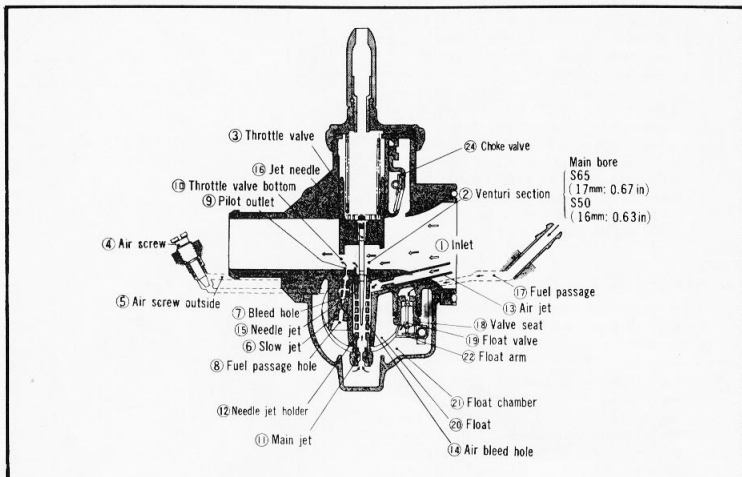

Figure 3-105. Carburetor cross sectional diagram
The air which passes through the air cleaner enters from inlet opening (1), passes under throttle valve (3) (main bore (2)) and taken into the inlet side of the engine. The power output is determined by the volume of air taken into the engine. This necessary air flow is controlled by the vertical movement of the throttle valve which varies the area of the main bore (2). (Fig. 3-105)
The air which flow through the main bore (2) creates a low pressure directly under the throttle valve. It is here that the fuel outlets for both the main and slow systems are located. (Fig. 3-105)